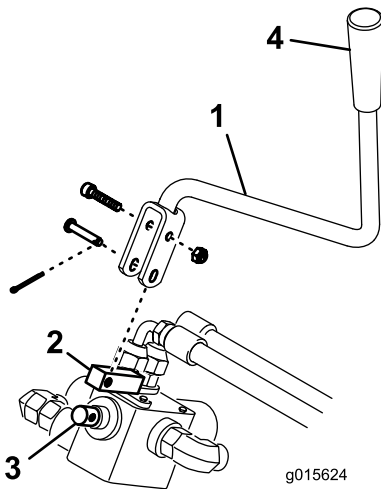

Figure 10
19. Mount the pivot lever to the handle with a socket-head screw and a locknut (Figure 10).
20. Install the control knob to the handle (Figure 10).